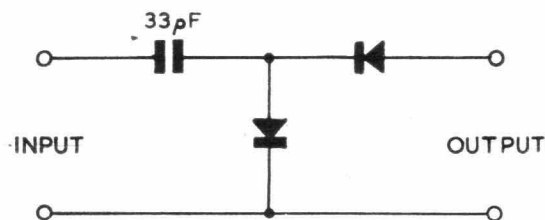

Fig. 1. Peak-to-Peak-Detector.
- (iii) A peak-to-peak detector, as shown in Fig. 1.